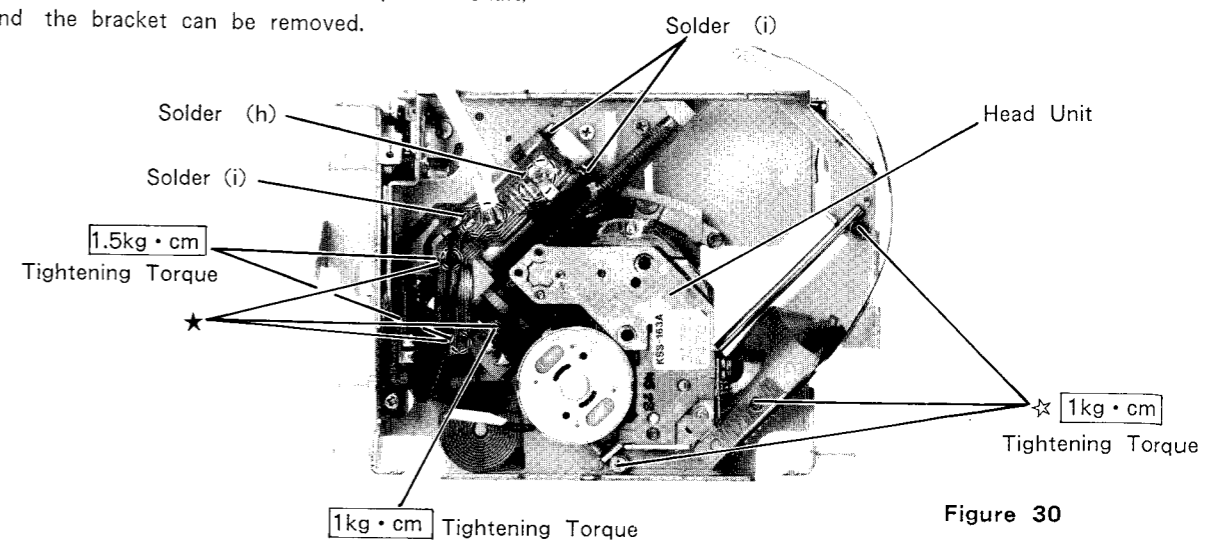

Figure 30
- (1) Unsolder solder (h) as shown in Figure 30.
- (2) Remove three screws marked "☆" as shown in Figure 30.
- (1) After removing the Head Unit, unsolder three solder (i) as shown in Figure 30.
- (2) Remove three screws marked "★" as shown in Figure 30.